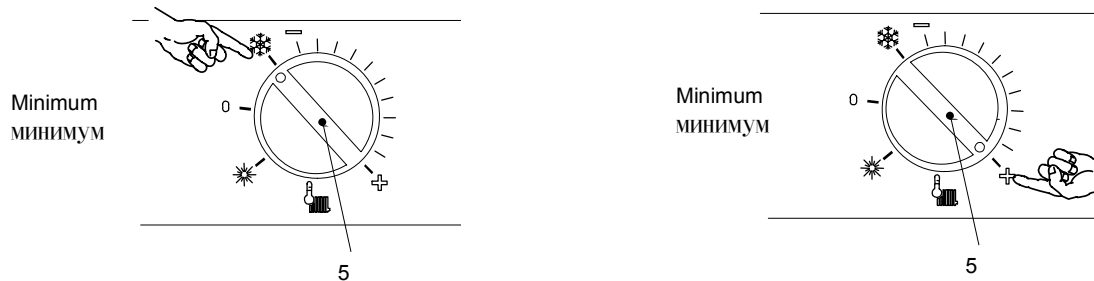

Fig. 2.6
The output temperature of c.h. water is adjustable from a minimum of about 30°C to a maximum of about 85°C (Fig. 2.6), by turning the knob (5).